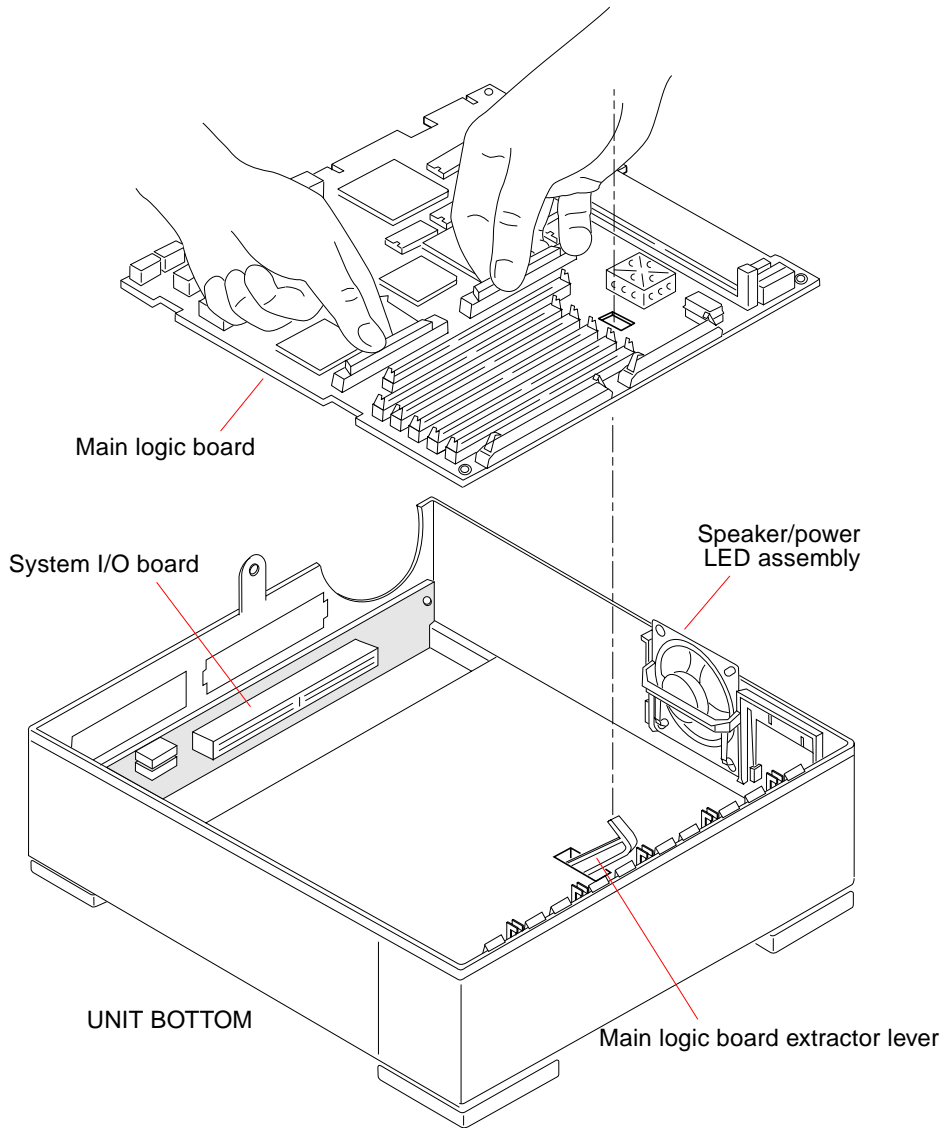

FIGURE 11-17 Removing and Replacing the Main Logic Board
- c. **Grasp the board by the SBus connectors with both hands. Tilt the board slightly to avoid the speaker assembly and lift it up and out of the system unit (see FIGURE 11-17). Avoid handling any of the delicate electronic components or touching any of the circuit board traces.**
- a. Grasp the board by the SBus connectors with both hands and guide the main logic board extractor lever through the rectangular cutout in the main logic board (see FIGURE 11-17). Avoid handling any of the delicate electronic components or touching any of the circuit board traces.**